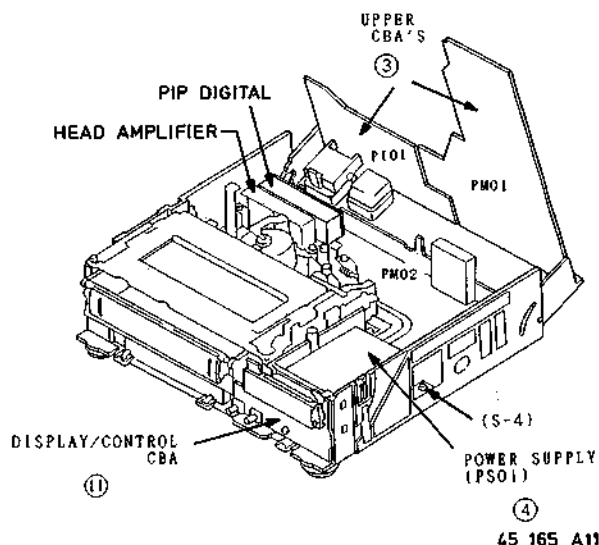

Fig. 1
Place the unit as shown in Fig. 1 for servicing. Refer to Disassembly procedure item 4.6